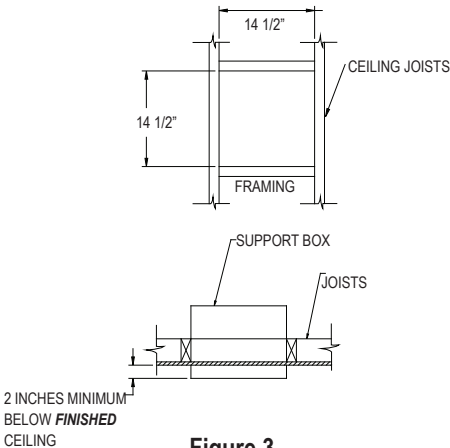

Figure 3
2. **Frame Support Opening:** Drop a plumb bob to the center of the appliance's flue outlet and mark this center point on the ceiling. Refer to Table 2 for specific framing and clearance dimensions. Mark appropriate cutting lines around the center point. Cut a square hole in the ceiling for a Square Support Box, or a round hole for a Round Support Box. Frame a level, square opening centered over the hole which you have cut. (*Figures 3 and 4*).